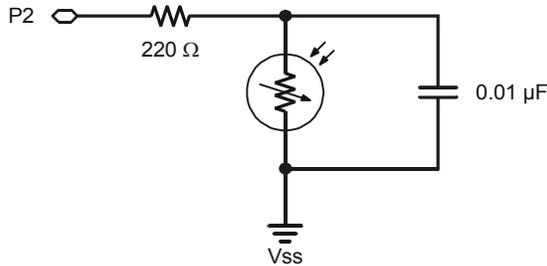
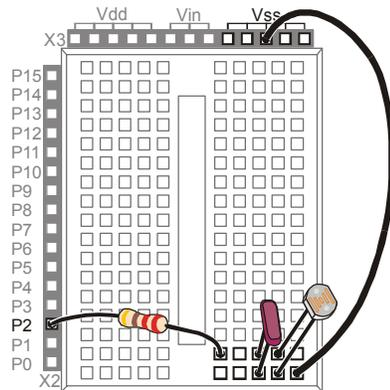

Figure 7-2
Figure 7-3
Figure 7-2 shows a schematic of the RC-time circuit you will use in this chapter, and Figure 7-3 shows the wiring diagram. This circuit is different from the potentiometer circuit from Chapter #5, Activity #3 in two ways. First, the I/O pin used to measure the
- √ Build the circuit shown in Figure 7-2 and Figure 7-3.